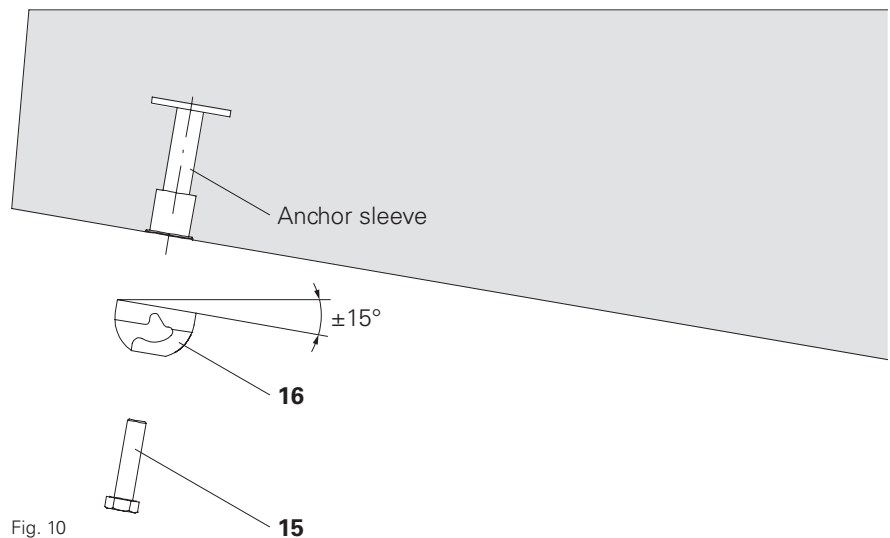

Fig. 10
- Do not exceed max. permissible inclination ($\pm 15^\circ$) of the Suspension Head M24 VARIOKIT. (Fig. 10)
1. Fix the Suspension Head M24 VARIOKIT (**16**) to Anchor Sleeve M24 using bolt ISO 4014 M24 x 150-8.8 (**15**). (Fig. 10)